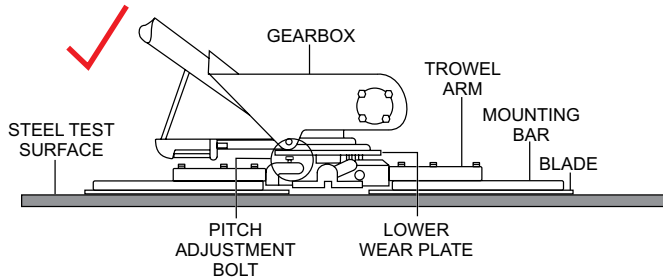

Figure 49. Correct Blade Pitch (Flat)
- Pitch the blades as flat as possible. The pitch adjustment bolts (Figure 49) should all barely make contact (0.10 inch max. clearance) with the **lower wear plate** on the spider. All pitch alignment bolts should be spaced the same distance from the lower wear plate. If one is not making contact, adjustment will be necessary.